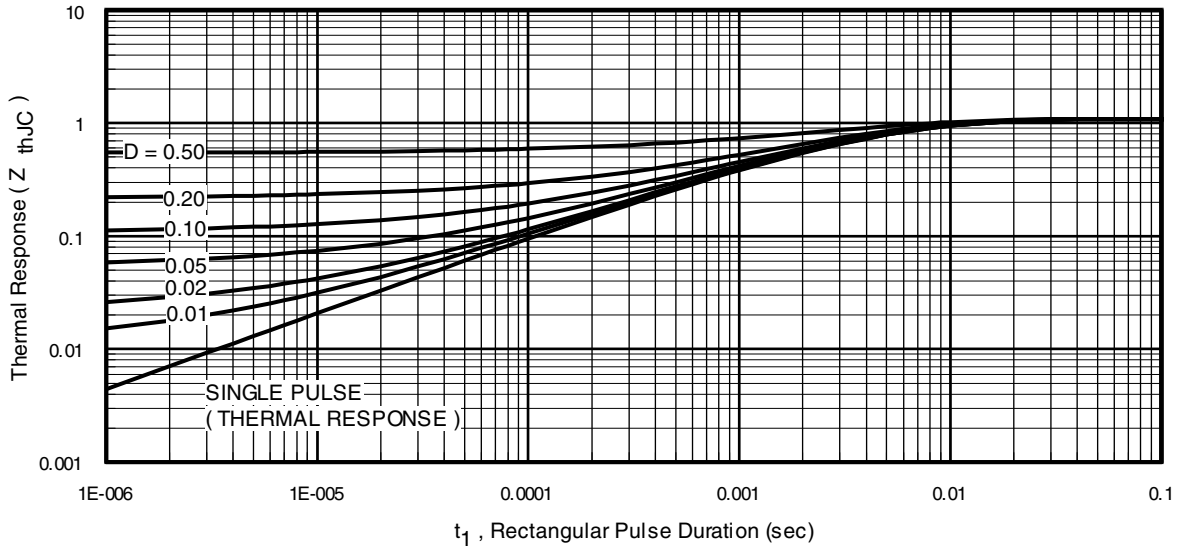
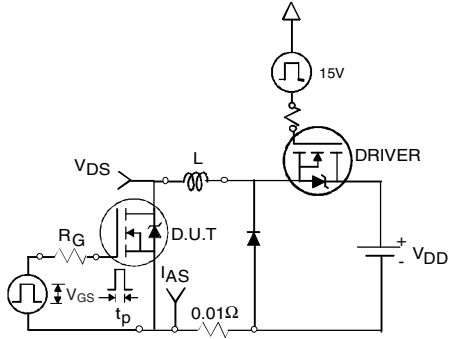

Fig 11. Maximum Effective Transient Thermal Impedance, Junction-to-Case
Fig 12a. Unclamped Inductive Test Circuit
3. Equation below based on circuit and waveforms shown in Figures 12a, 12b.
$Z_{thJC}(D, t_{av})$ = Transient thermal resistance, see figure 11)
- ① Repetitive rating; pulse width limited by max. junction temperature. (See fig. 11).
- ② Limited by T_{Jmax} , starting $T_J = 25^\circ\text{C}$, $L = 0.47\text{mH}$, $R_G = 25\Omega$, $I_{AS} = 30\text{A}$, $V_{GS} = 10\text{V}$. Part not recommended for use above this value.
- ③ $I_{SD} \leq 30\text{A}$, $di/dt \leq 300\text{A}/\mu\text{s}$, $V_{DD} \leq V_{(BR)DSS}$, $T_J \leq 175^\circ\text{C}$
- ④ Pulse width $\leq 1.0\text{ms}$; duty cycle $\leq 2\%$.
- ⑤ C_{OSS} eff. is a fixed capacitance that gives the same charging time as C_{OSS} while V_{DS} is rising from 0 to 80% V_{DSS} .
- ⑥ Limited by T_{Jmax} , see Fig.12a, 12b, 15, 16 for typical repetitive avalanche performance.
- ⑦ This value determined from sample failure population. 100% tested to this value in production.
- ⑧ When mounted on 1" square PCB (FR-4 or G-10 Material) . For recommended footprint and soldering techniques refer to application note #AN-994